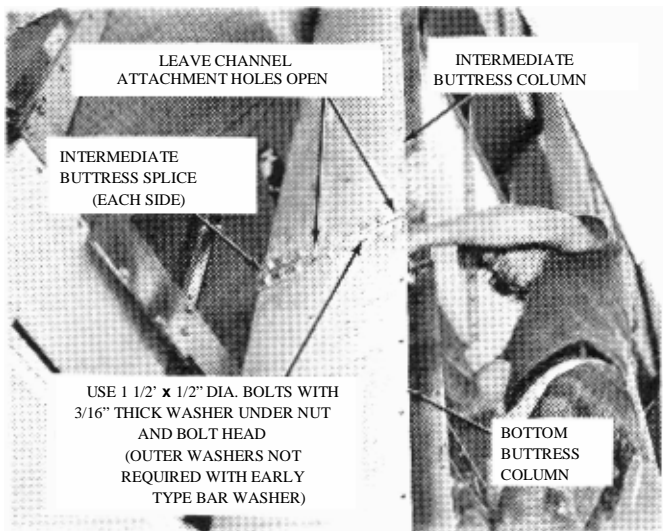

FIG. 8 - INSTALLING INTERMEDIATE BUTTRESS
B. CF-2000M ONLY - After the intermediate module is placed, with the module support pad bolts installed, LOOSELY connect the two columns by installing the intermediate buttress splices. See Fig. 8.
C. With the top module lifted into place and connected to its lower module, LOOSELY connect the two buttress columns by installing the top buttress splices. Use 1 1/2" x 1/2" Dia. bolts with a 3/16" thick washer under nut and bolt head, similar to the parts shown in Fig. 8.